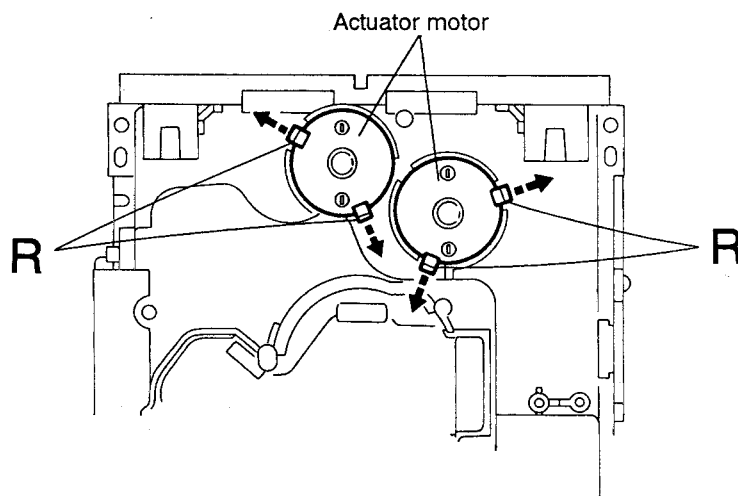

Fig.5-55
5. After turning over the chassis assembly, remove the actuator motor while spreading the four pawls "R" fixing the right and left actuator motors in the arrow direction (See Fig. 5-55).